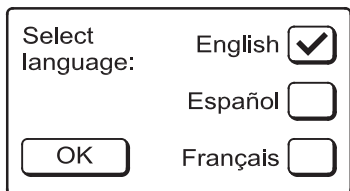

FIG. 24
3. Press the LANGUAGE button and the display will change to show the **Select Language** screen (See Figure 24).